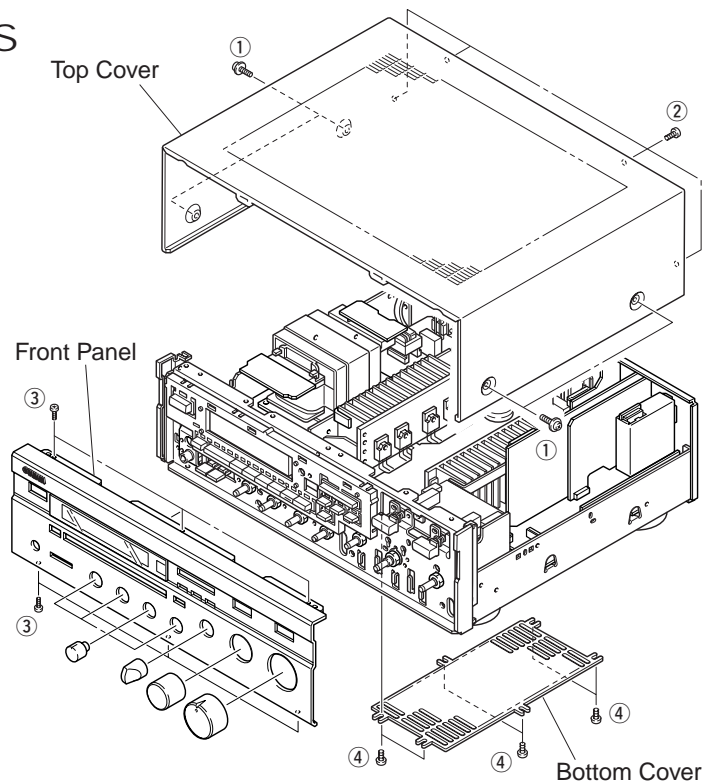

Fig. 1
Remove 6 screws (④) in Fig. 1.